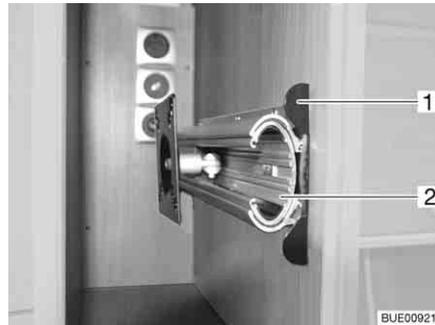

Fig. 99 Holder in the TV cabinet
- Push the unlocking bar (Fig. 99,1) in.
- Pull out the extension (Fig. 99,2) as far as possible.
- Push in the extension (Fig. 99,2) until the unlocking bar (Fig. 99,1) engages.